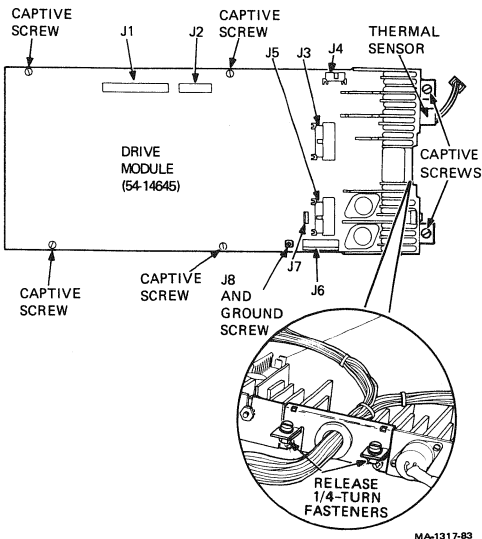

Figure 4-16 Drive Module
2. Release cable connectors at drive module jacks J1 (control), J2 (controller read/write), J3 (preamp read/write), J4 (control panel), J5 (spindle control), J6 (power), J7 (power), and J8 (grounds) (Figure 4-16). Release heat sink thermal sensor connector leading to cooling fan.
3. Unscrew, but do not remove, six captive screws (Figure 4-16).
5. Free the dc power cable harness by releasing two 1/4-turn fasteners that secure the cable retaining bracket to the heat sink (Figure 4-16).
2. Lay drive module down onto the module tray. Make sure insulator is in place and secure it to module tray with six captive screws and grounding screw at J8 (Figure 4-16). Make sure grounding screw is secured tightly. Intermittent errors can result if this screw is loose.
3. Plug appropriate cable connectors into jacks J1, J2, J3, J4, J5, J6, J7, and J8 of drive module (Figure 4-16). Plug heat sink thermal sensor connector into cooling fan connector.
**Perform this step for slave drive only.** On the drive module, remove cable connectors at jacks J1 and J2 (Figure 4-16). Jacks J1 and J2 are the lock/eject type. Grasp two tabs at ends of jack and rotate out. This releases cable connector.
**Perform this step for slave drive only.** On the drive module, plug in cable connectors at jacks J1 and J2 (Figure 4-16). Jacks J1 and J2 are the lock/eject type. Push cable connector in as far as it will go without forcing. Then grasp two tabs at ends of jack and rotate in. This seats cable connector.
3. Disconnect cables at drive module J3, J4, and J5 (Figure 4-16). Allow them to pass through cutouts in drive module.